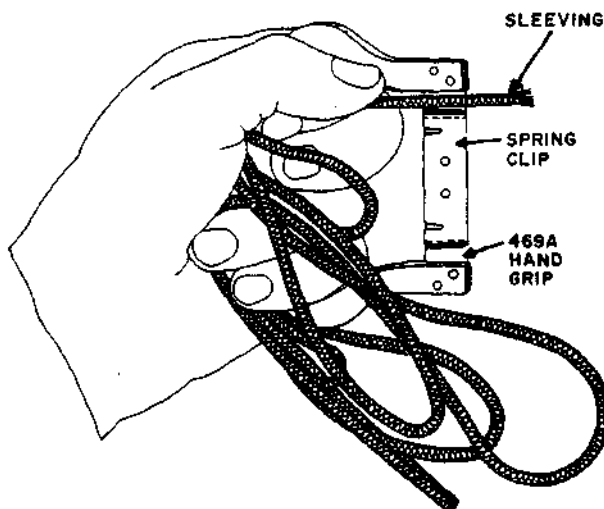
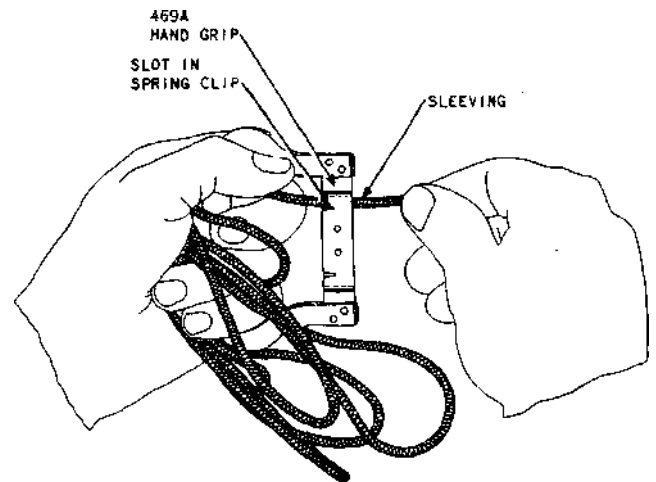
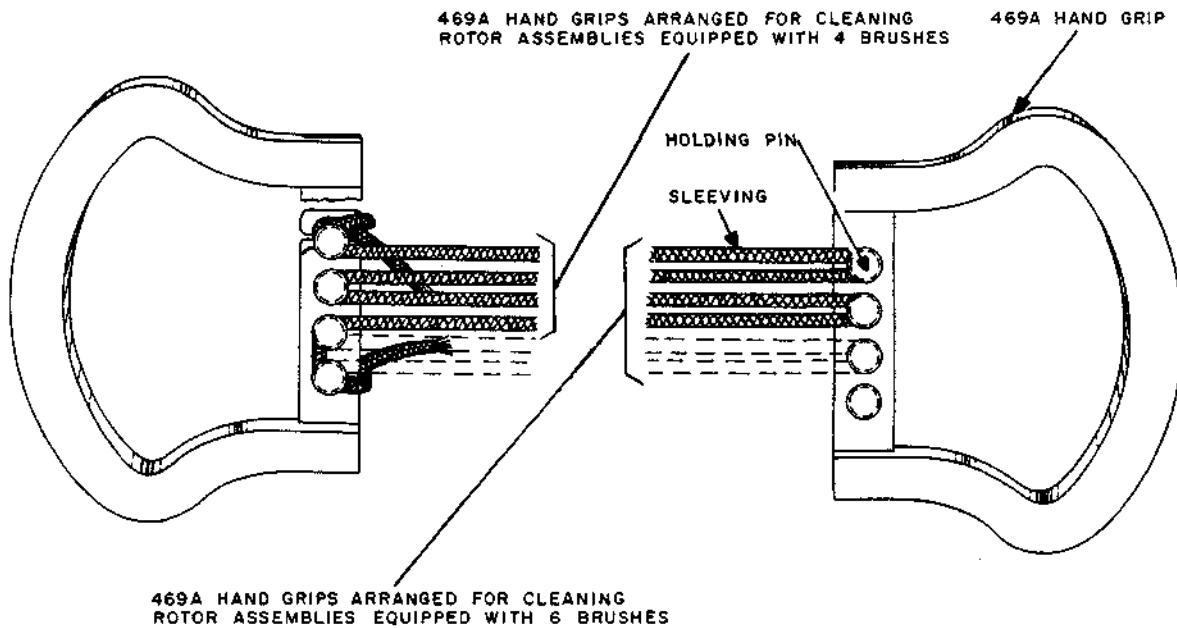

Fig. 4—Holding Sleeve and 469A Hand Grip Preparatory to Inserting Sleeve in Slot of Spring Clip
Fig. 5—Inserting Sleeve in Slot in Spring Clip of 469A Hand Grip
Fig. 6—469A Hand Grips Arranged for Cleaning Rotor Assemblies Having 4 or 6 Brushes
without twisting it fasten the two ends to the two outside holding pins on one of the tools as follows. Hold the grip and the sleeving, as shown in Fig. 4. Exercise care to keep the sleeving clean. Slide the sleeving under the spring clip until it assumes the position shown in Fig. 5. Loop it over the loose end and around the first holding pin. Proceed as outlined above to thread the other end of the sleeving around the other outside holding pin. Using three adjacent holding pins on the other 469A hand grip, thread the sleeving between the two hand grips, thus giving the effect of six parallel strings, as shown in Fig. 6. Equalize the lengths of these strings to eliminate the slack in any one string.
3.04 *Rotor Assemblies Having Two or Four Brushes:* To thread the 469A hand grips, cut off lengths of sleeving approximately 58 inches long for rotor assemblies having four brushes or 32 inches for rotor assemblies having two brushes and load the grips, as shown in Fig. 6.